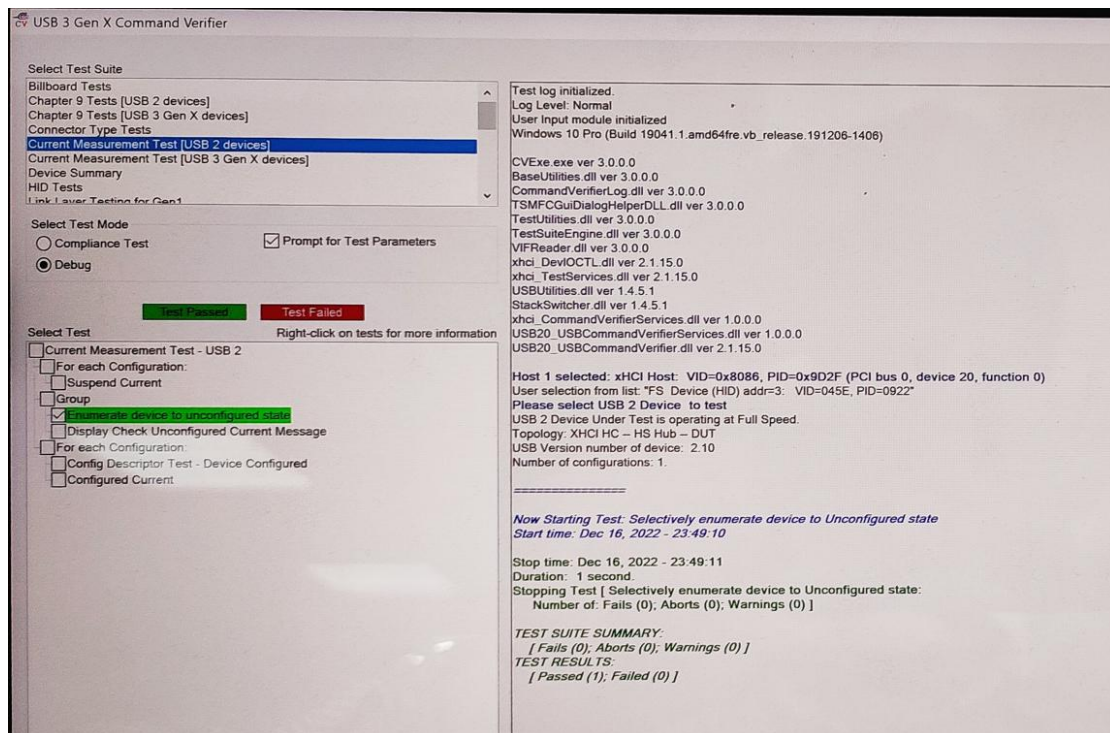

FIGURE 7.6: TEST RESULTS GENERATION IN CV TOOL FOR TD 4.9.1 ENUMERATE DEVICE TO UNCONFIGURED STATE TEST
5. The test results will be updated in the CV tool once the test execution is completed (Figure 7.6 below).